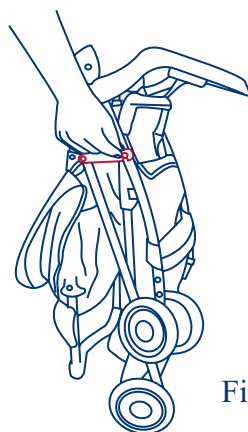

Fig. 15
* Release the folding latch, which is located on the right side. See figure 15.